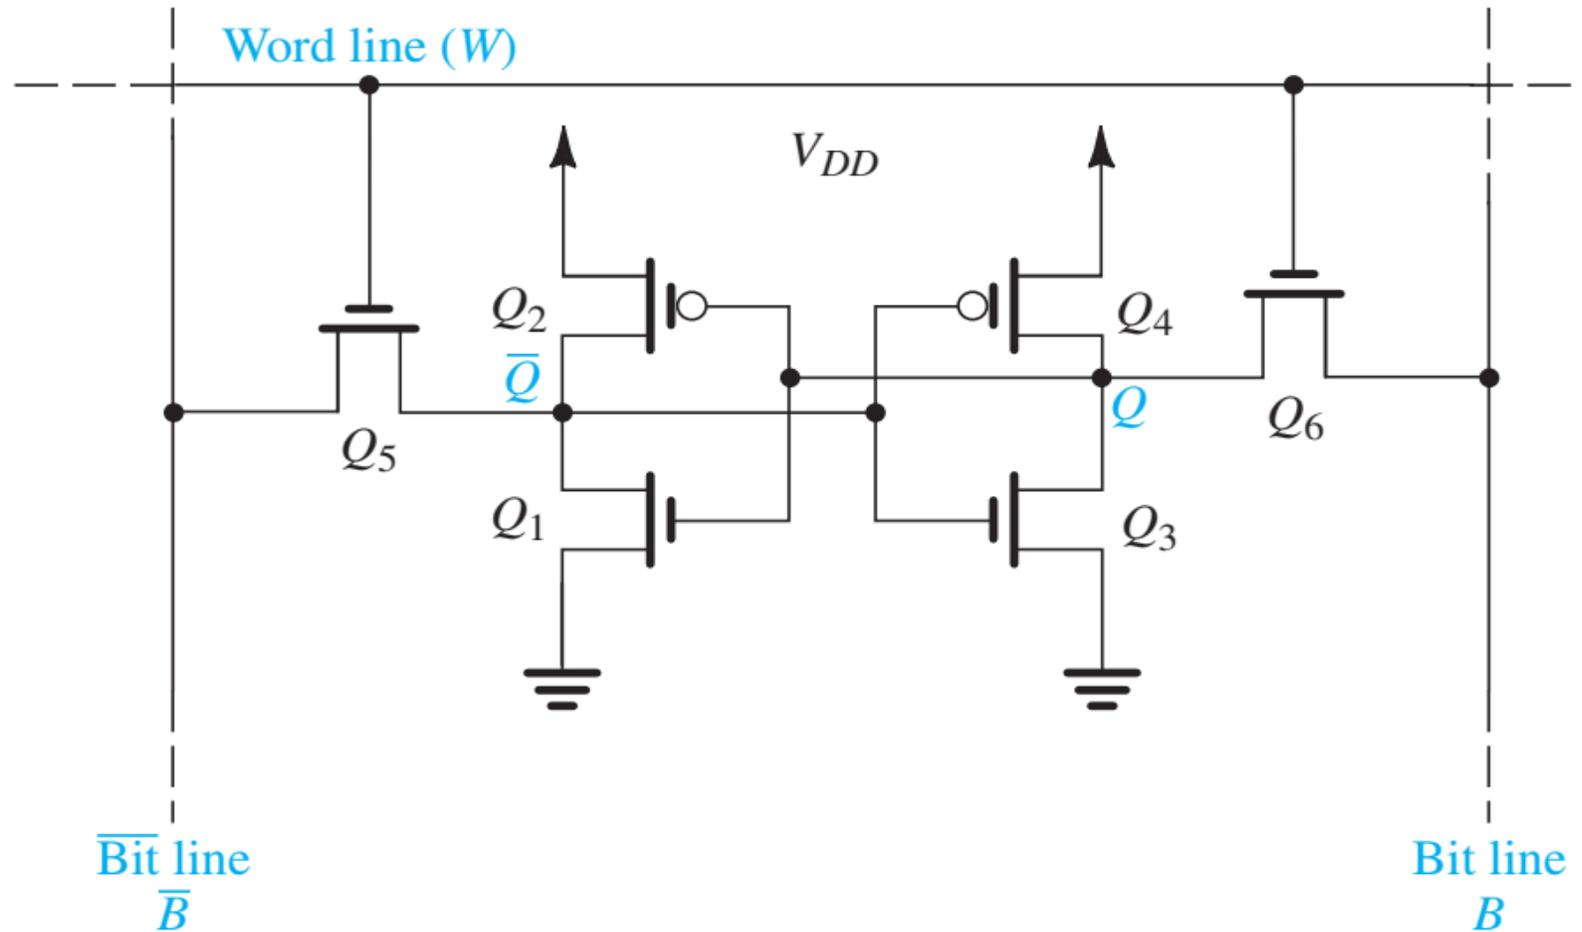

Fig. 2-27.
- ❑ **Architecture of CMOS SRAM:** Figure 2-27 shows a typical SRAM cell in CMOS technology.